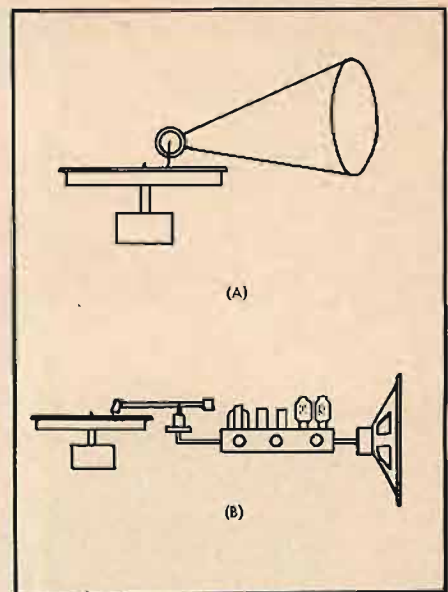

Fig. 3-3 (a) The mechanical phonograph (b) The electric phonograph.
It would be useful to consider the design of the non-electric phonograph, as illustrated in (A) of Fig. 3-3. A better insight can thereby be gained into the function of the various components of a modern electronic system.
pickup has to generate very little power, because the output voltage can be amplified to almost any desired degree. The amplified electrical power must finally, of course, be converted back into sound by a loudspeaker. The two types of reproducing system, electrical and purely mechanical, are shown in Fig. 3-3.